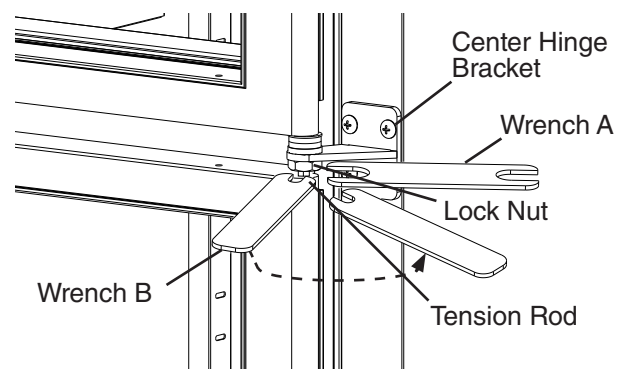

Fig. 54
- 4) Turn wrench B counter-clockwise to relieve tension on the tension rod. Without releasing the pressure on wrench B and the tension rod, use wrench A to tighten the lock nut. See Fig. 54